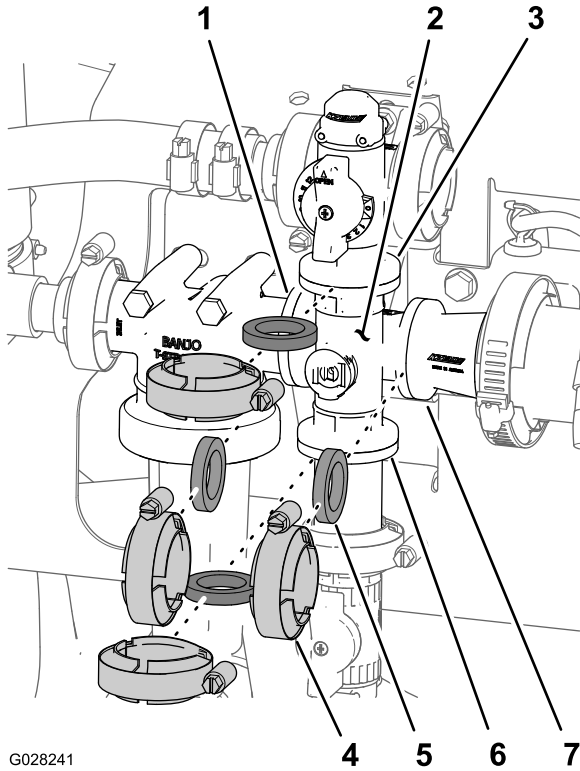

Figure 112
1. Remove the clamps and gaskets that secure the manifold for the agitation valve to the agitation bypass valve, pressure-filter head, reducer coupling, and adapter fitting (agitation throttle valve) as shown in Figure 112.